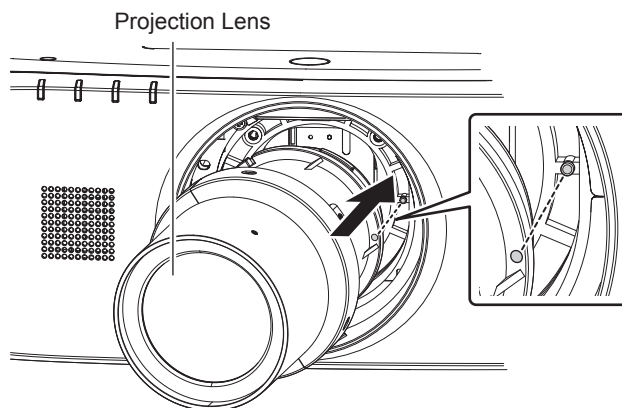

Fig. 1
- 1) Align the red mark on the Projection Lens with the red mark on the projector, and insert the Projection Lens as far as possible. (Fig. 1)